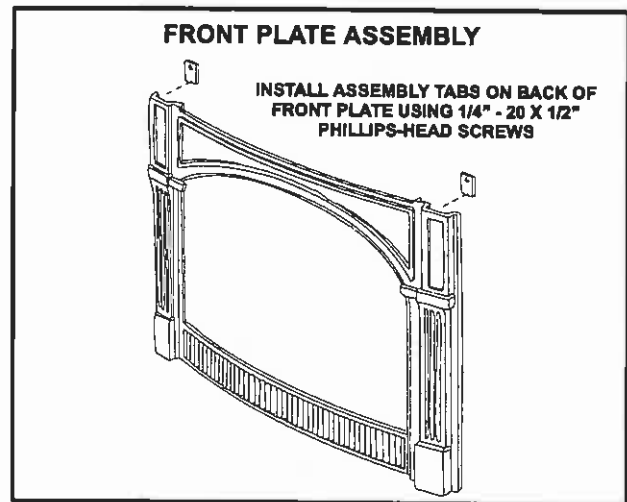

FIGURE 16
- 7 - Use two of the provided 1/4" -20 X 1/2" Phillips-head screws to install two front plate assembly tabs on the front plate as shown in figure 16.